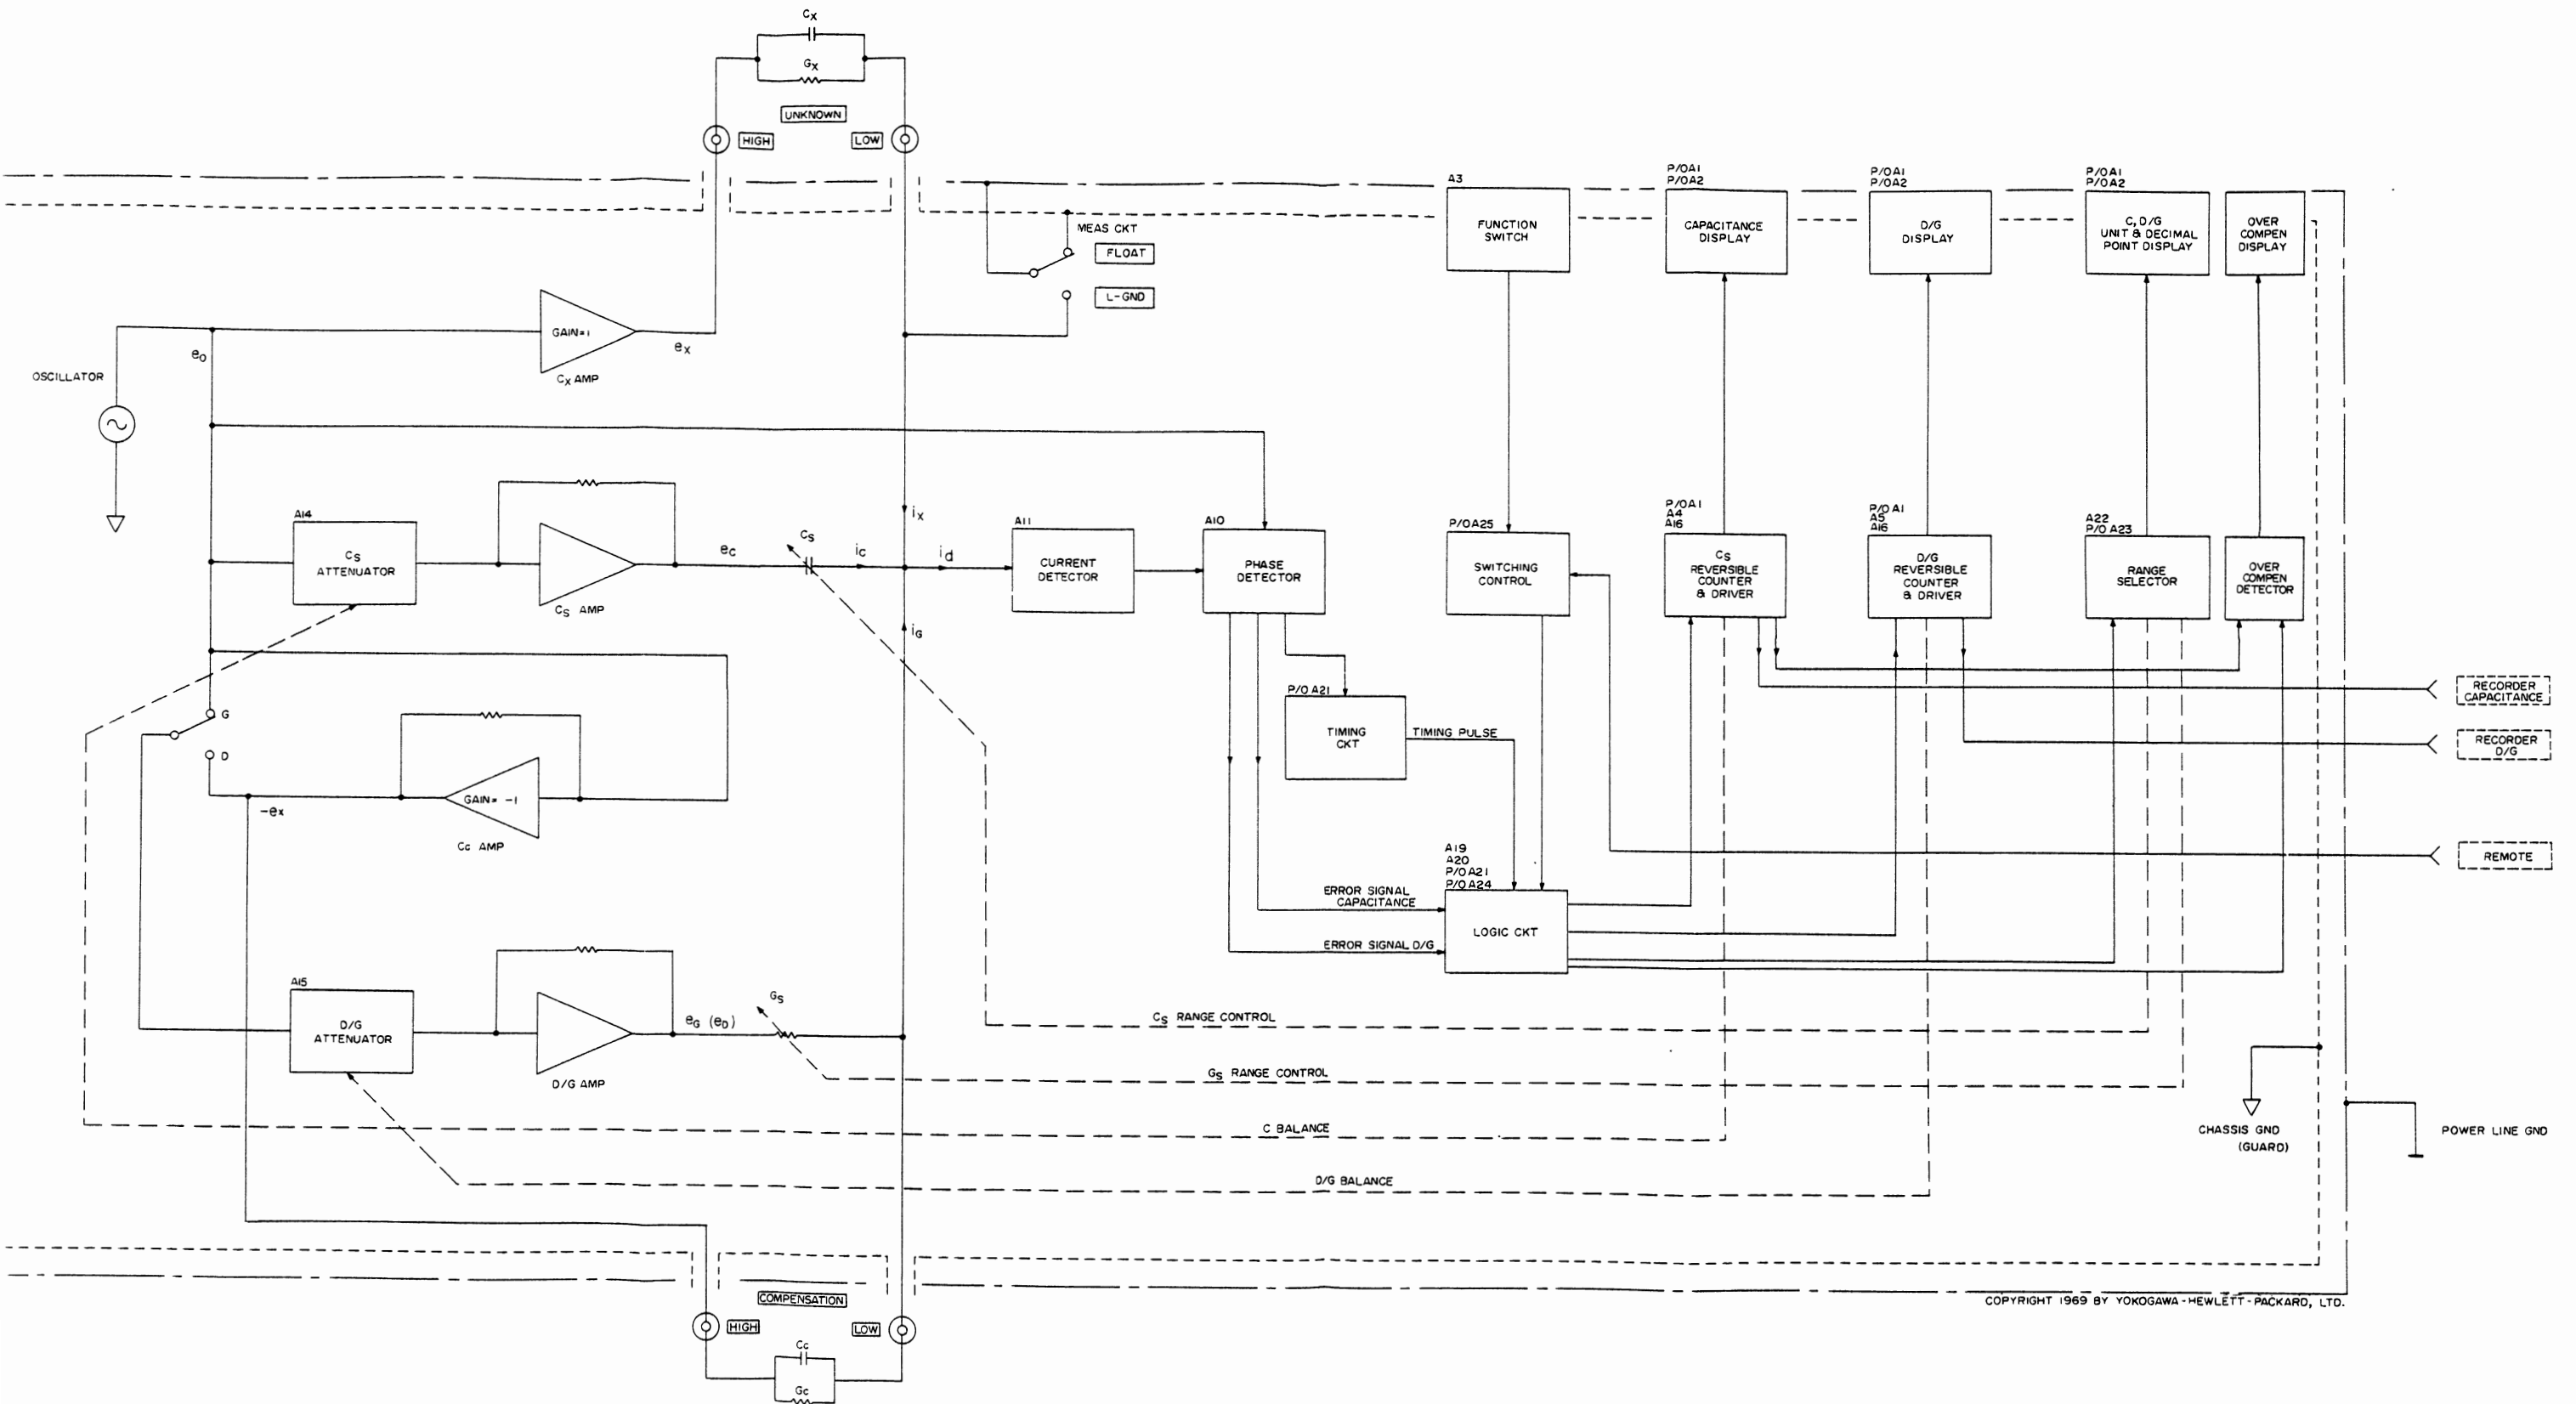

Figure 8-2. Simplified Block Diagram
- b. Simplified Block Diagram (Figure 8-2).